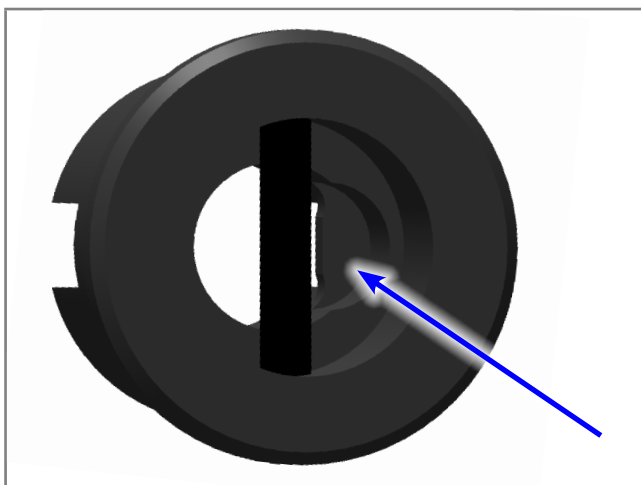
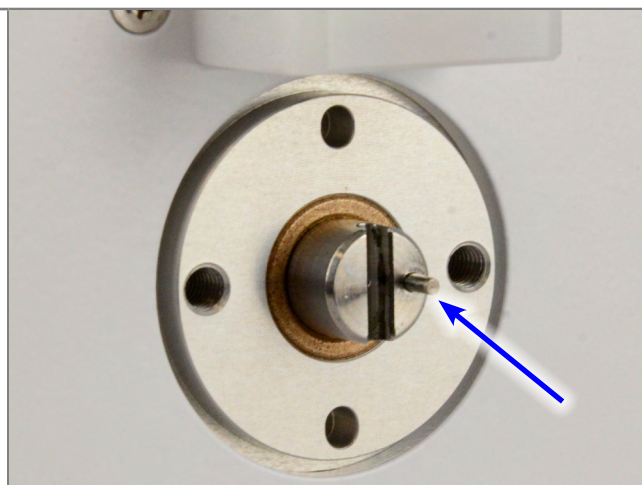

Fig. 3 Cutout on the coupling
Fig. 4 Drive axle with axle pin
2. Pull off the coupling and replace it by the supplied one. Make sure that the cutout on the back side of the coupling (Fig. 3) is in the same orientation with the pin of the drive axle (Fig. 4).